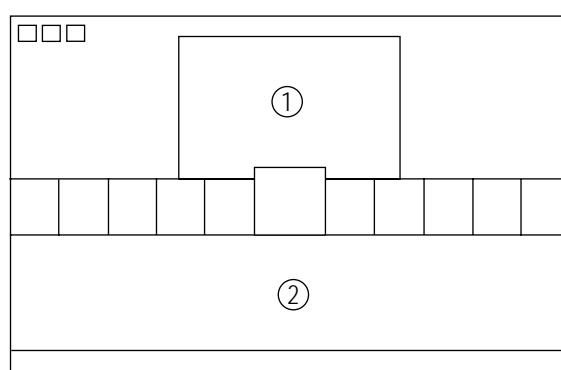

Fig. 4-4
1. Set SBT to  $1.3 \pm 0.2$  fL in the Factory Service Mode with using CA100. See Fig. 4-4 ②.
1. Set SCT to 55 FL (20". 21"), 65 FL(14".16") in the Factory Service Mode with using CA100. See Fig. 4-4 ①.